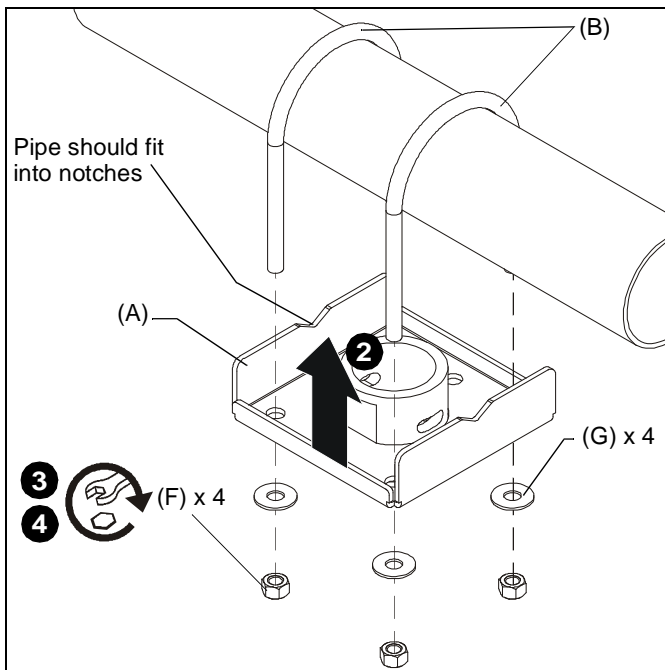

Figure 2
2. Raise truss plate (A) up and insert U-bolts through holes in truss plate. (See Figure 2)
**NOTE:** If installing truss plate (A) to pipe, ensure that pipe fits into notches in plate. (See Figure 2)
3. Loosely install 3/8" nuts (F) and 3/8" washers (G).
4. Level mount and tighten nuts (E). (See Figure 2)